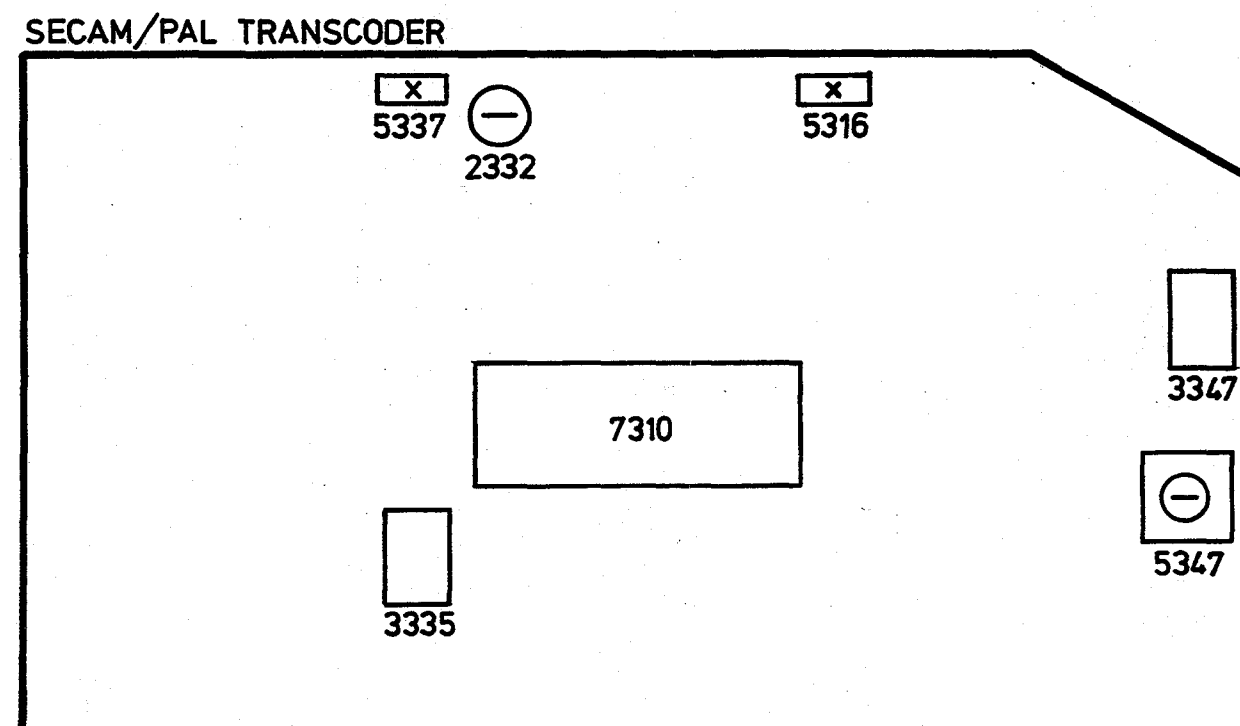

Fig. 7
D. ADJUSTMENTS SECAM/PAL TRANSCODER (Fig. 7)